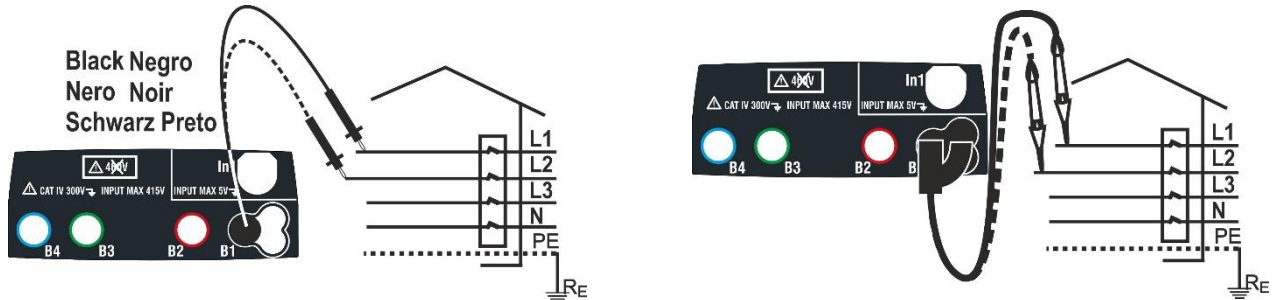
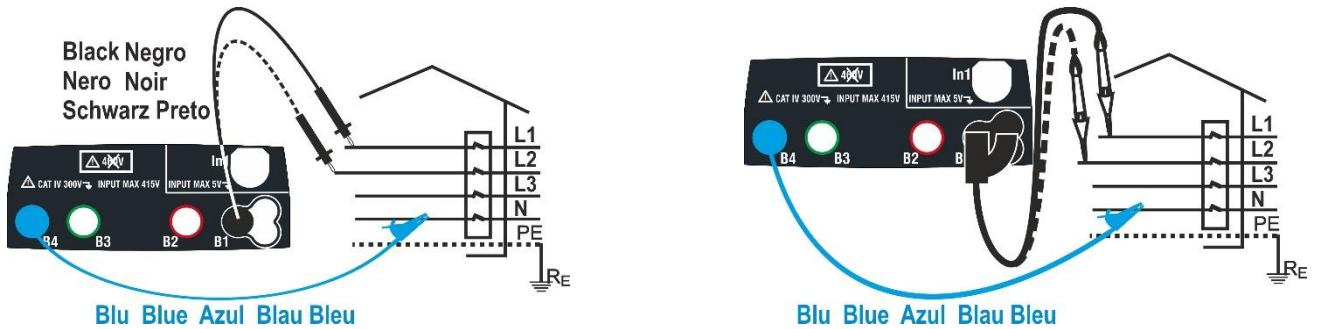

Fig. 24: Phase sequence check of 1T phases with terminal and remote lead
Fig. 25: Phase sequence check of 2T phases with terminal and remote lead
- Insert the blue and black connectors of the single cables in the corresponding input terminals of the instrument B4, B1 (2T measurement). Insert in the free end of the cables the corresponding alligator clips or tips. It is also possible to use the remote lead by inserting its multipolar connector into the input lead B1. Connect the alligator clips, the tips or the remote lead to phase L1 and N according to Fig. 24 and Fig. 25.
Under these conditions, connect the alligator clips, the tips or the remote lead to phase L2 and N in accordance with Fig. 24 and Fig. 25.